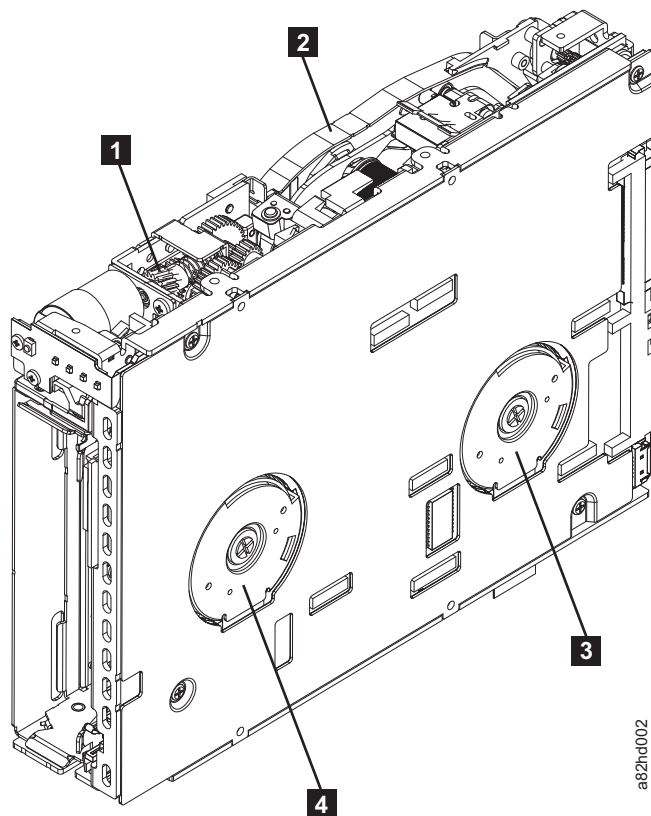

Figure E-10. Rewinding tape into cartridge
3. Turn the supply reel ( **4** in Figure E-10) clockwise.
4. Continue spooling into the cartridge until the tape is taut and remains within the flanges of the tape guiding rollers. turn the supply reel ( **4** in Figure E-10) 10 turns. Ensure that you do not stretch the tape.